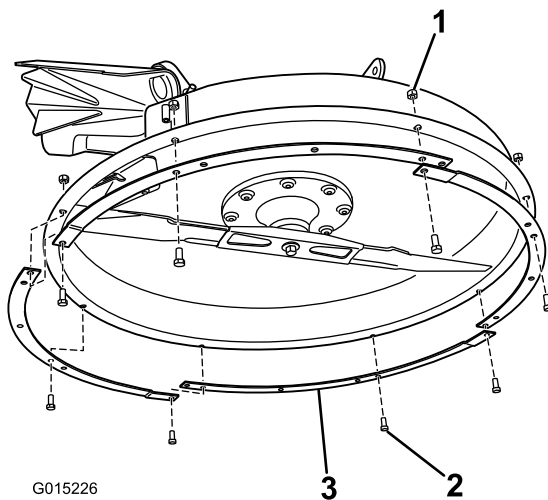

Figure 29
1. Install the interlocking deck rings to the bottom of the mower deck (Figure 29).